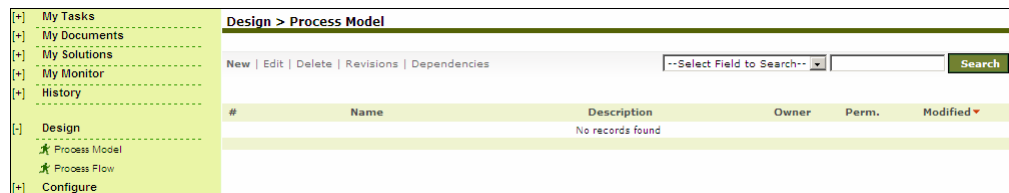

Figure 7.1: Manage Process Model
2. Click **Process Model**. The Manage Process Model screen is displayed (see Figure 7.1).